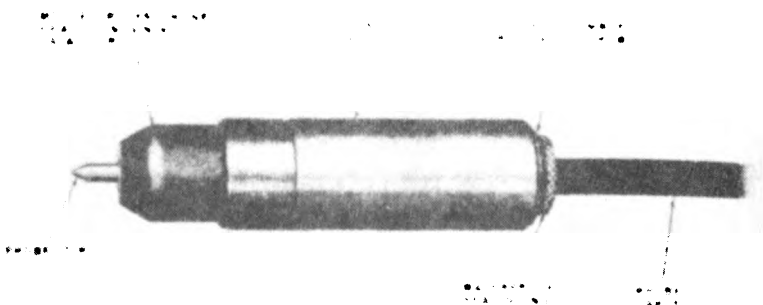

Figure 20. A-c probe.
a. Because of the mechanical difficulties and special techniques needed to replace the tube in the a-c probe (fig. 20) repair of this component is not recommended. Instead, if capacitor C1 is defective, replace the a-c probe shell. If diode V1 or resistor R1 is defective, replace with a spare diode assembly.
(1) With one hand, grasp the diode assembly retaining screw (fig. 20) to prevent it from turning; with the other hand, loosen the waterproof sealing nut.